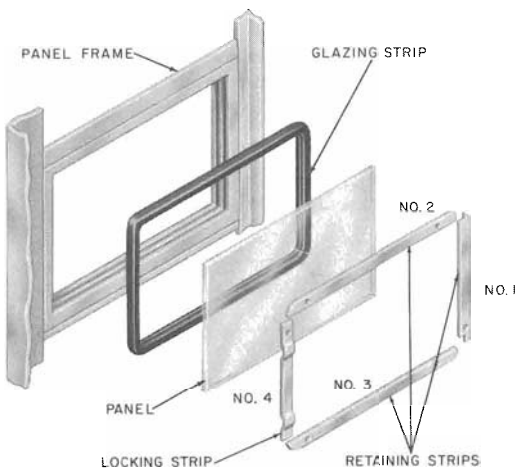

Fig. 23—Assembly of Side or Rear Panels
- 4.10** Booth panels and signs are held in place by four interlocking retaining strips. They are inserted in sequence as shown in Fig. 23. The No. 4 strip is rippled and is held in place by interface friction.
- (2) Remove retaining strips No. 2 and No. 3.
- (3) Remove retaining strip No. 1.
- (4) Remove panel and rubber glazing strip.
- (5) Apply rubber glazing strip to replacement panel.
- (6) Insert panel into frame with the beaded edge of retaining strip on the outside.
- (7) Replace retaining strips in sequence as shown in Fig. 23.
4.15 The side and rear signs are removed in the same manner as the side panels (Fig. 23).
4.45 Replace glass panels in same manner as side panels (Fig. 23).